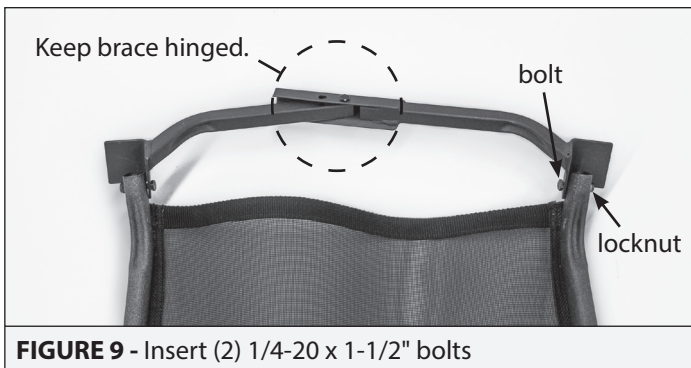

FIGURE 9 - Insert (2) 1/4-20 x 1-1/2" bolts
f. Insert (2) 1/4-20 x 1-1/2" bolts through the front hinged brace and each side rail, and finger tighten locknuts. **SEE FIGURE 9.** Brace should remain hinged.